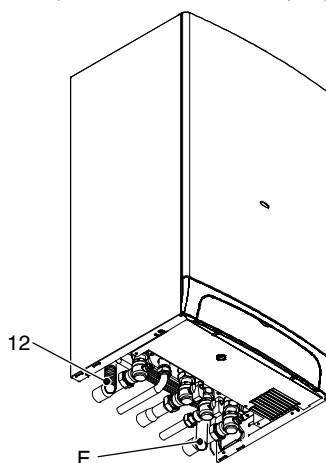

Fig. 6.4
- 6 Connect the pipe E (Fig. 6.4) from the pressure relief valve to the safety discharge pipework.
- 7 Fit the condensate drain 12 (Fig. 6.4) in the air brake connected to the drainage pipework. See also section 5.7 in this manual.